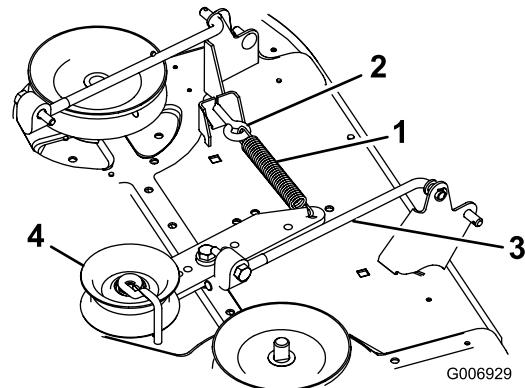

Figure 37
7. Unhook the spring on the idler pulley arm from the bracket on the mower (Figure 37).